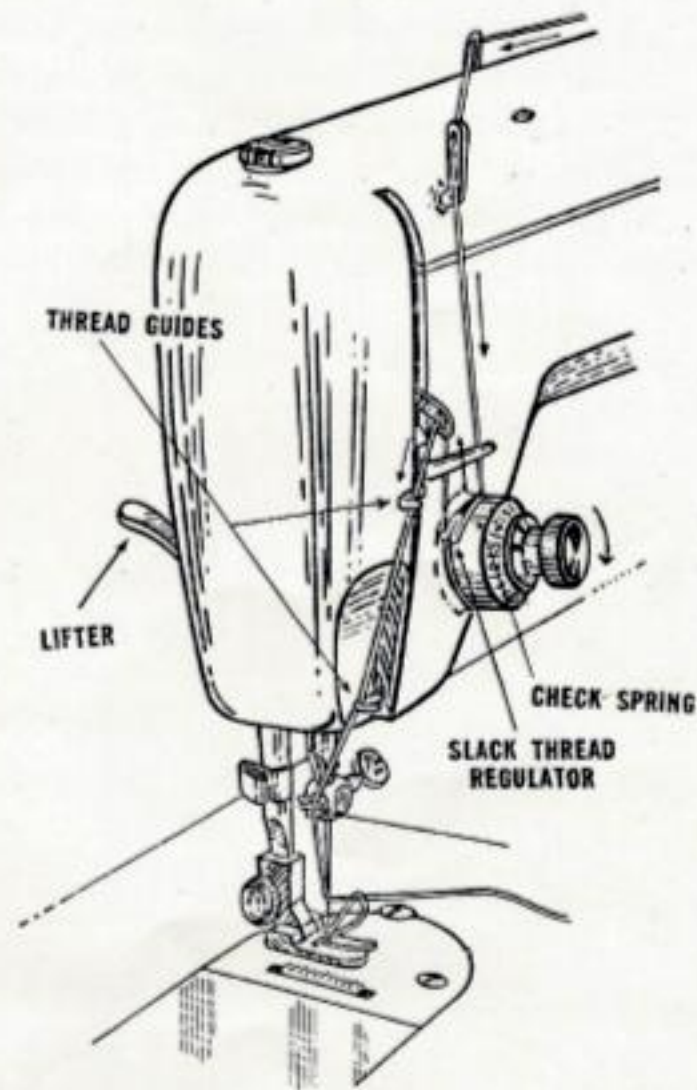

Fig. 11
3. Lead the thread through the arm thread-guide (Fig. 11).
2. Lower the presser foot, by lowering the presser bar lifter (Fig. 11).